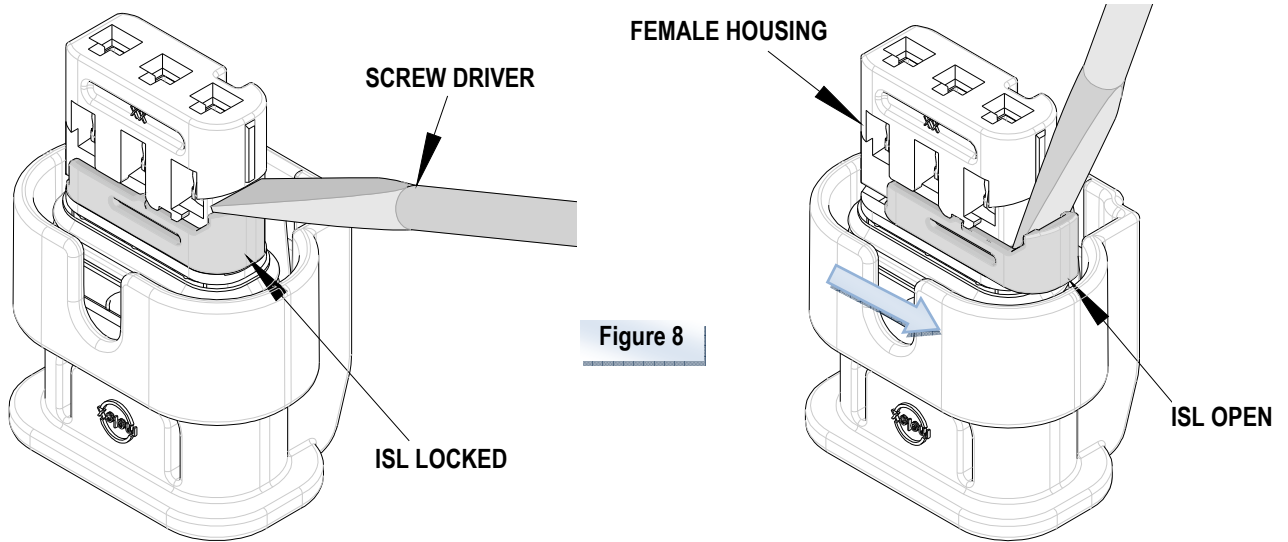

Figure 8
6. Using the Molex 63600-4398 Screwdriver in the tooling kit, insert the flat edge under the lip of the female housing and under the top edge of the ISL. See Figure 8.